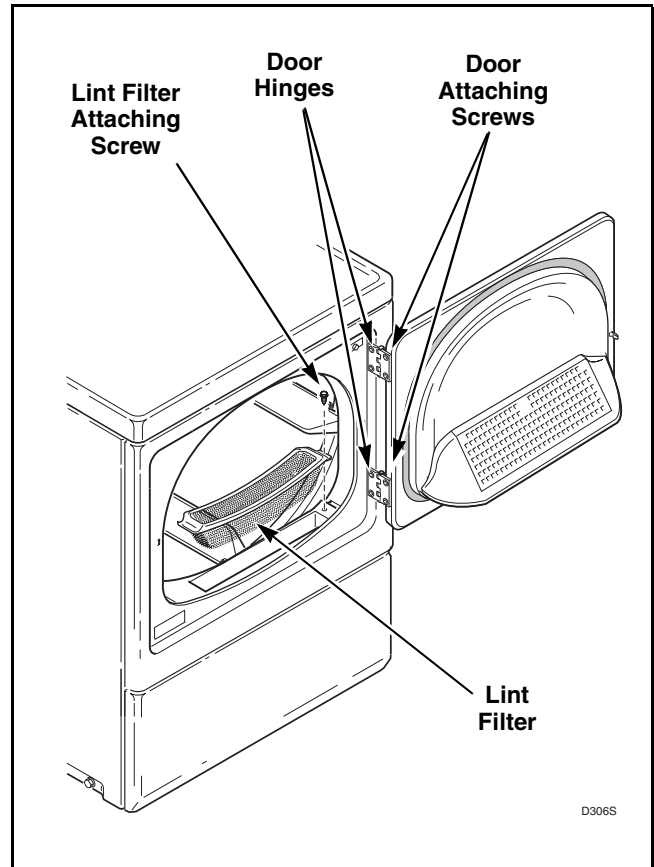

Figure 18
- a. Open loading door and, while supporting door, remove four screws holding door assembly to hinges. Refer to *Figure 18*.
- b. Remove four screws holding hinges to front panel. Refer to *Figure 18*.